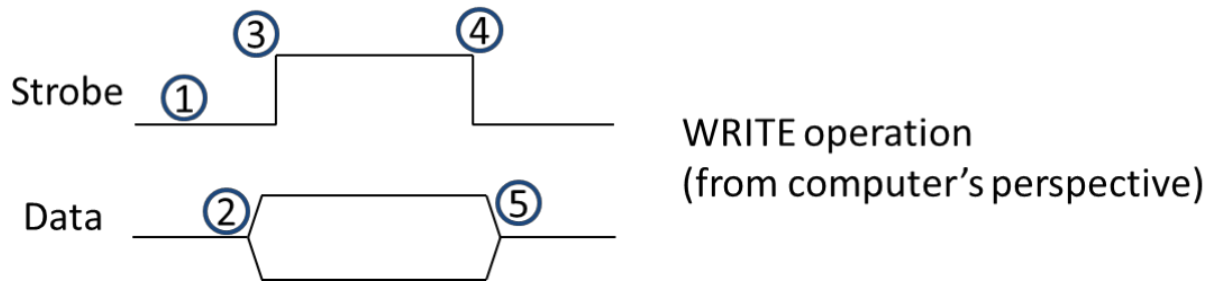

Figure 1. Write operation on the bus
The PIC microcontroller on the sensor device is connected to the embedded computer through the GPIO port. A viable pin assignment is shown in Figure 1 although there can be certainly other possible assignments. Over the GPIO port, five signal lines (D3-D0 and Strobe) are available. The data bus (D3-D0) is **4-bit**. The control signals is **Strobe** driven by the Galileo board to synchronize the information exchange between the sensor device and the embedded computer.
The steps (in Figure 1) involved in the write operation are as follows.
1. Design a user space application on Yocto Linux to directly access the GPIO port of an Intel Galileo board and control the Strobe signals and data bus as described in Figures 1 and 2.
3. Design firmware for the PIC microcontroller on the sensor device to support the read and write operations as described in Figures 1 and 2.